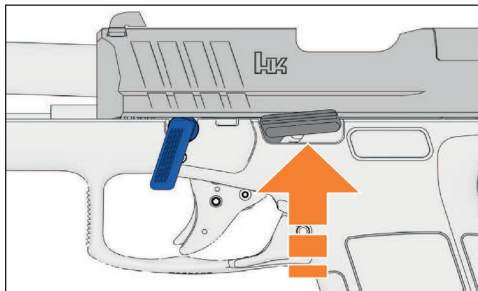

Figure 29 – Push up the slide release to secure slide to the rear
5. Place the slide assembly on the receiver and pull it all the way to the rear until the slide release can be pushed up to secure the slide to the rear (see Figure 29).